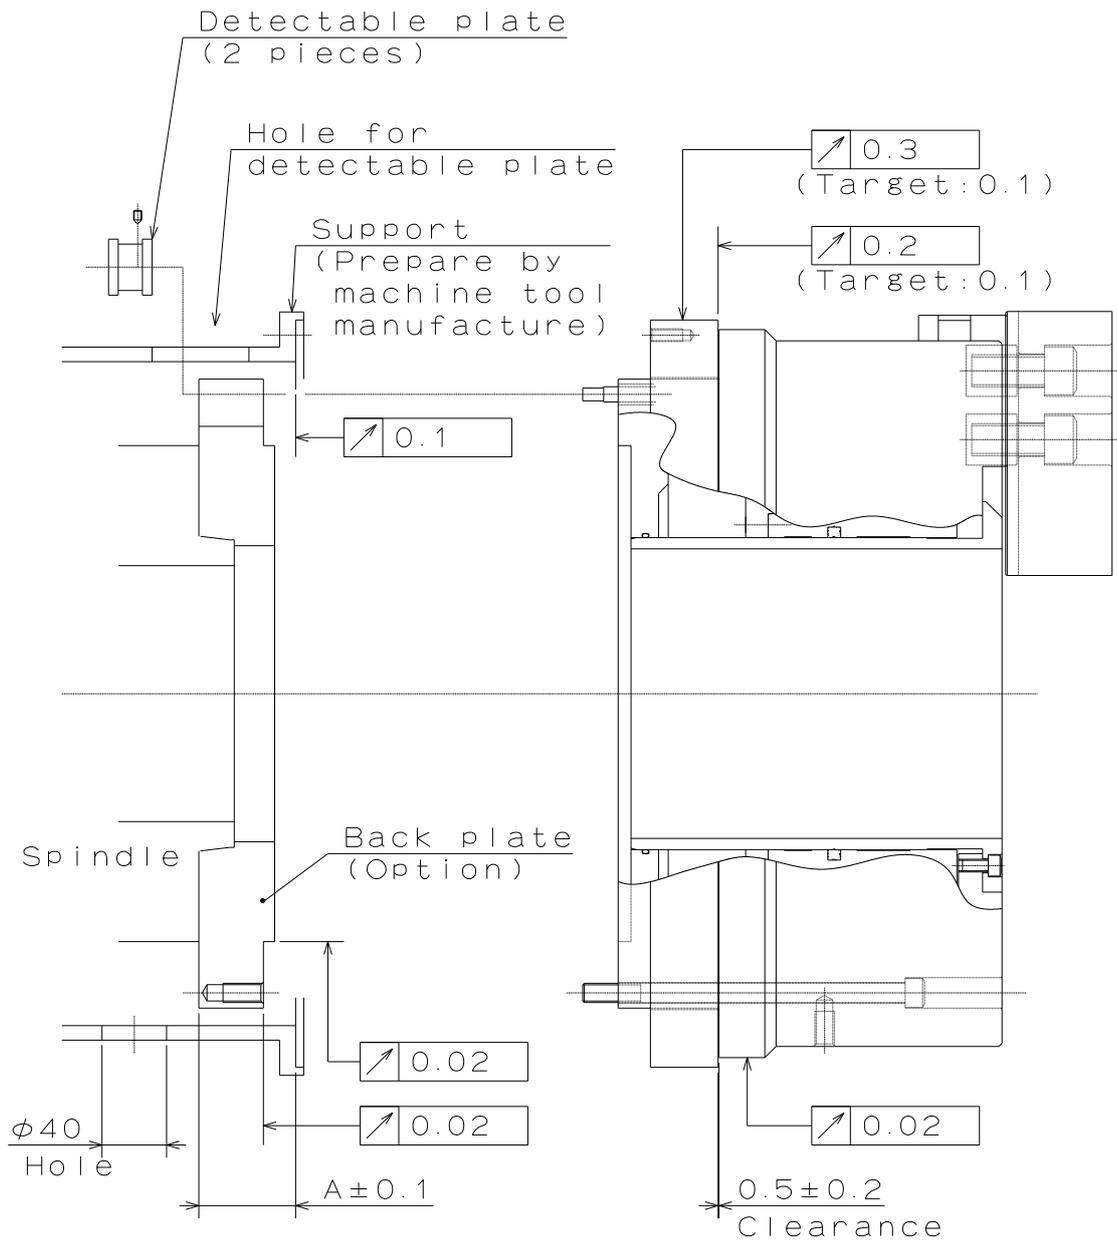

Fig.15
- Run-out of the back plate directly affects the process precision. The end surface run-out of the back plate, spigot joint diameter run-out must be 0.02 mm or less. (Refer to Fig.15)
- Provide a support to secure the air supply ring to the lathe body. Refer to the Delivery Specification for the dimensions. The end surface run-out of the support must be 0.1mm or less. For dimension A in Fig.15, consideration must be given so that the tolerance can be adjusted to within ± 0.1 .
- Provide an air escape hole (over $\phi 40$) underneath the support as shown in Fig.15. This hole escapes the air coming out of a gap between supply ring and chuck. The jaw operating speed slows unless the hole is provided.
- Establish a hole for the detectable plates in the support side because you can attach or remove the chuck while fixing the air supply ring on the support like fig.15. All except for the chuck attachment and removal time block the hole up by a lid so that coolant and chips doesn't enter in the support.
- **Adjust the runout occurring when the support and the air supply ring are mounted to be less than the value shown in Fig.15. Check that the clearance between the air supply ring and the body is 0.5 ± 0.2 mm. If the air supply ring comes into contact with the body, seizure may occur during chuck rotation.**